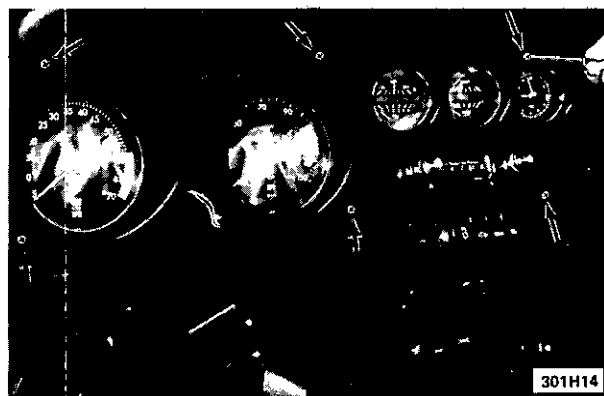

Figure 1H-14 Instrument Cluster Screws
11. Remove six (6) screws on instrument cluster. See Figure 1H-14.
12. Pull back on instrument cluster from top to remove. See Figure 1H-15.